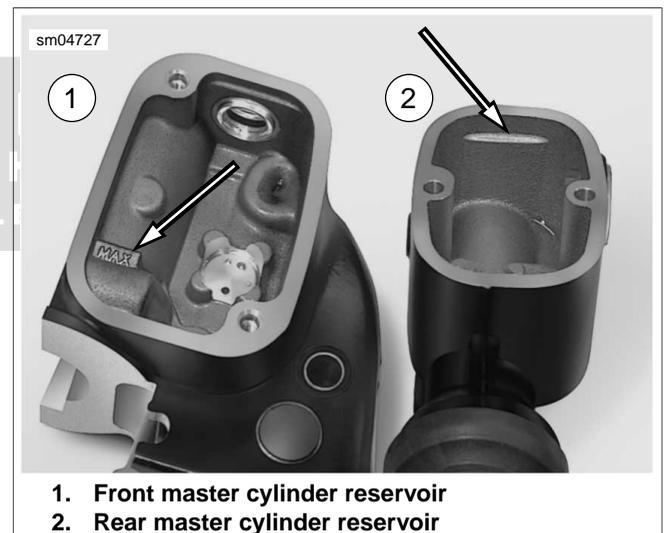

Figure 1-29. Brake Fluid Level
20. Check brake fluid level in master cylinder reservoir. If necessary, add D.O.T. 4 BRAKE FLUID until level is flush with ledge cast at front of reservoir. See Figure 1-29.
23. Check brake fluid level in master cylinder reservoir. If necessary, add D.O.T. 4 BRAKE FLUID until level is flush with step (marked MAX) cast at rear of reservoir. See Figure 1-29.